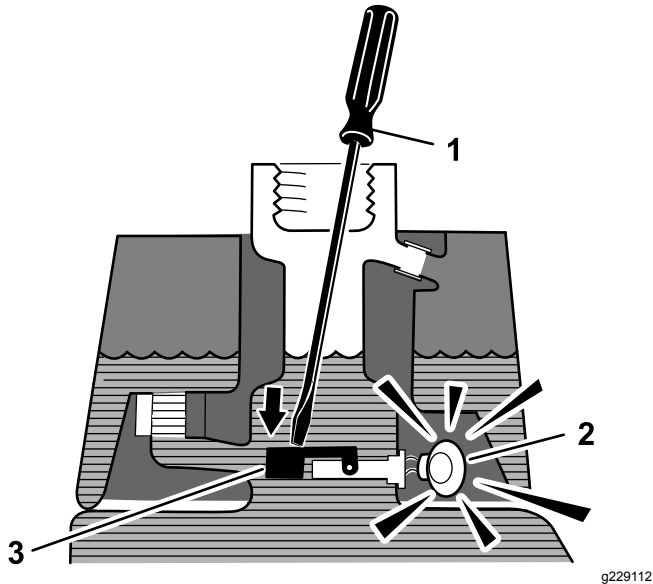

Figure 16
3. Insert a clean rod or screwdriver into the tank neck and gently push down on the float switch (Figure 16); the alarm should sound after the 1-second delay.